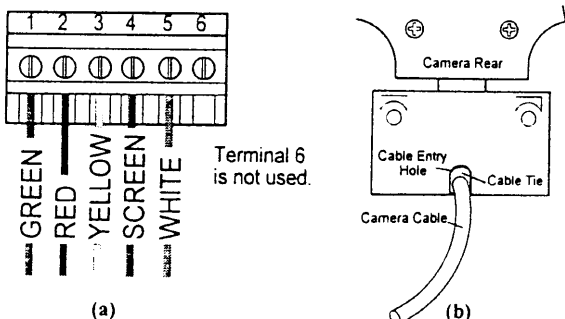

Figure 5
3. Use the cable tie provided, to prevent the camera cable from being pulled out of the Camera Unit, see figure 5(b).